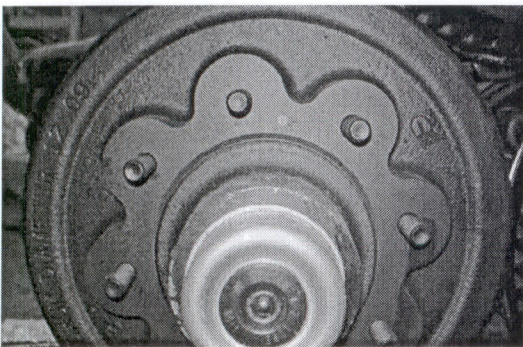

Figure 3
- Step 1 For the hub face, apply liquid paint remover or equivalent to the wheel-mating surface of the hub. Use a wire wheel (brush) to clean all black paint from the wheel-mating surface, that is, all areas of the hub face that come in direct contact with the wheel. Avoid damaging the hub face with this process! After the paint is removed, wash off the area with water to remove any remaining residue. Dry the surface completely. See Figures 3 & 4.